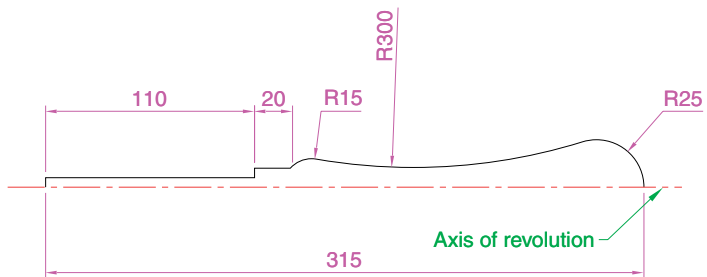

Fig. 18.8 Third example – Surfaces model – pline outline
2. Construct the plines as shown in Fig. 18.8.